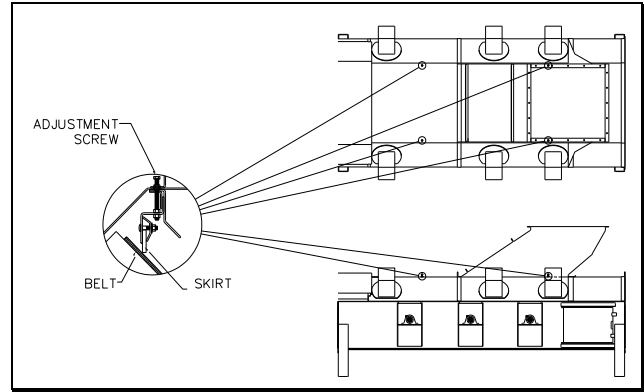

Figure 2.6.2 3I Roller Flo Loader Skirt Adjustment
- H. Adjust the Loader skirting so that the rubber is barely above the belt. This is done with the four bolts (two each side) located on the cover part of the Loader section. Reference **Figure 2.6.2**.